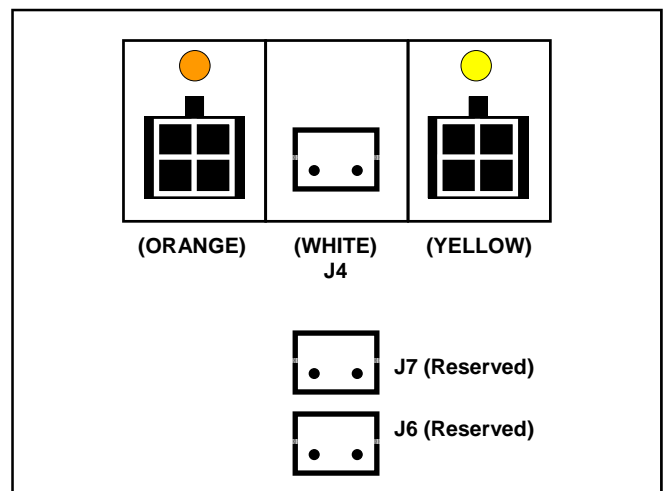

FIG. 16: CONTROL UNIT CONNECTIONS:
The rear of the **Surface-Mounted Networkx Control Unit** has five (5) sockets, *but only three (3) are used*. As per the accompanying **Orange** and **Yellow** colored dots (see Fig. 16), simply match the colors of the plug wire sleeves to the colors of the corresponding sockets. **Note:** The **Door Contact Sensor** has blue colored shrink tubing installed near the sensor; near the plug, the wires are white (insert the **Door Contact Sensor** plug into the white **J4** socket).